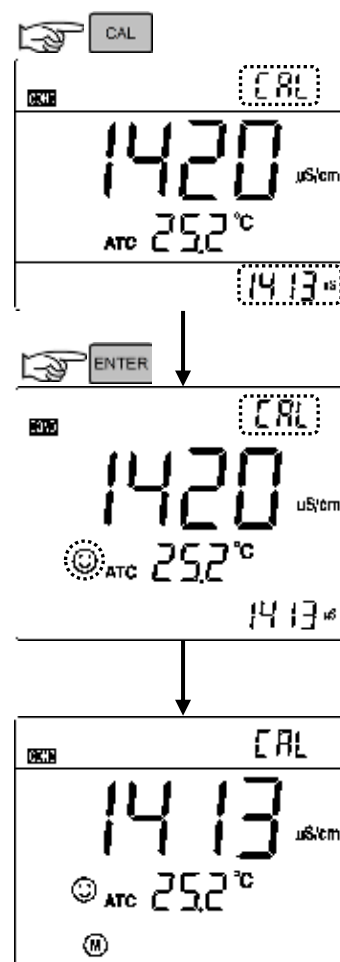

Figure-12
7.4.3 When the meter locks 1413 μS , stable icon ☺ will display on LCD. Press **ENTER** key to complete calibration. End will appear and the meter will return to measuring mode and **(M)** is displayed on bottom left of the LCD screen. See figure-12.